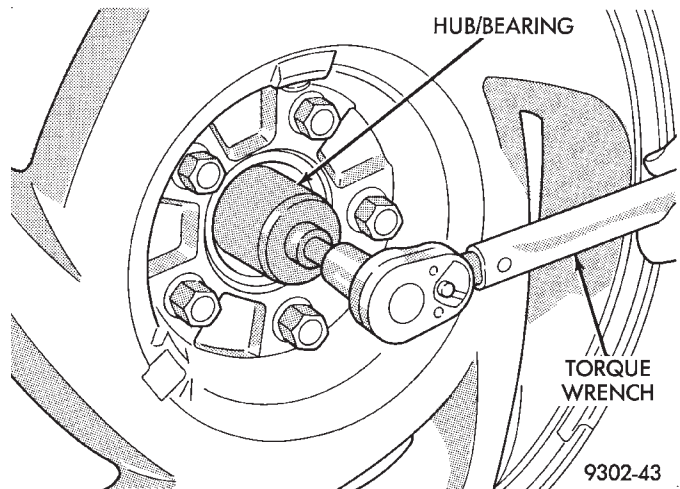

**Fig. 37 Torquing Hub And Bearing Retaining Nut**
(6) Install wheel and tire assembly on vehicle. Tighten the wheel mounting stud nuts in proper sequence until all nuts are torqued to half specification. Then repeat the tightening sequence to the full specified torque of 129 N·m (95 ft. lbs.).
(7) Lower the vehicle to the ground.
(8) With vehicle brakes applied to keep vehicle from moving, tighten the **NEW** stub shaft to hub and bearing assembly retaining nut to 163 N·m  $\pm$  14 N·m (120 ft. lbs.  $\pm$  10 ft. lbs.) (Fig. 37).